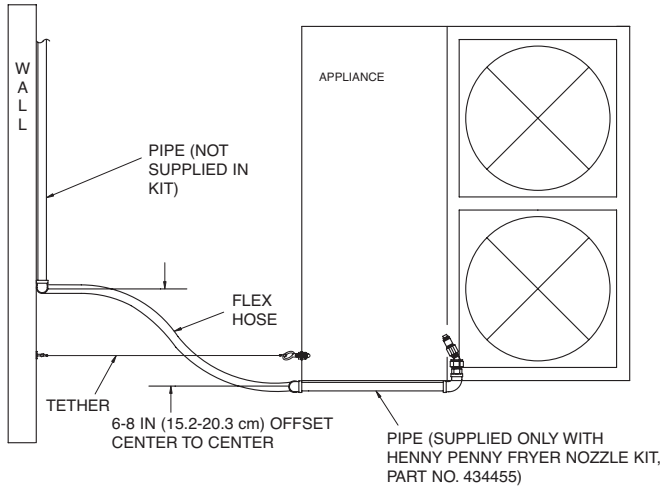

FIGURE 16
7. Hose ends are to be offset 6 to 8 in. (15.2 to 20.3 cm) center to center of fittings (See Figure 16) to maximize hose life expectancy and facilitate appliance movement. With the appliance in its normal operating position, check the hose bend to make certain the bend is not less than a 3 in. (7.6 cm) bend radius (6 in. (15.2 cm) diameter).